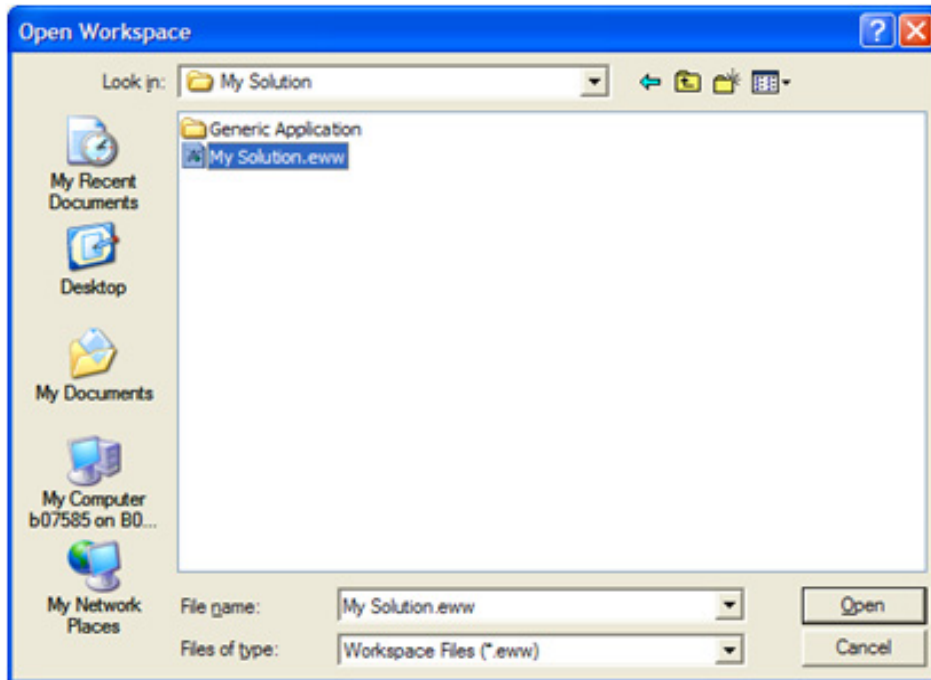

Figure 5-1. Opening Generic Application Space
1. Using the IAR Embedded Workbench, open the Generic Application work space (`MySolution.eww`) as shown in Figure 5-1.